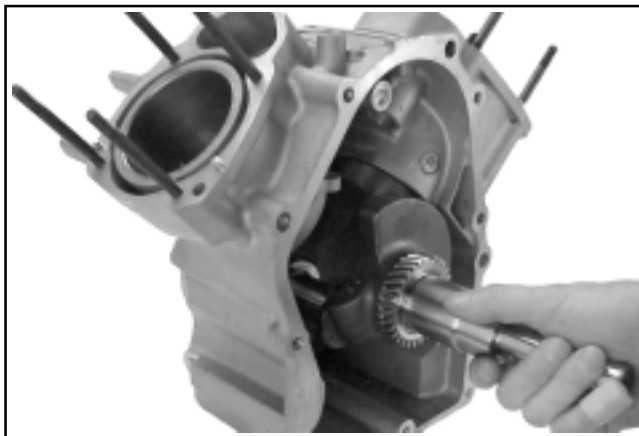

Figure 11-3. Installing Crankshaft.
2. Carefully slide flywheel end of crankshaft through the bearing bore in crankcase. See Figure 11-3.